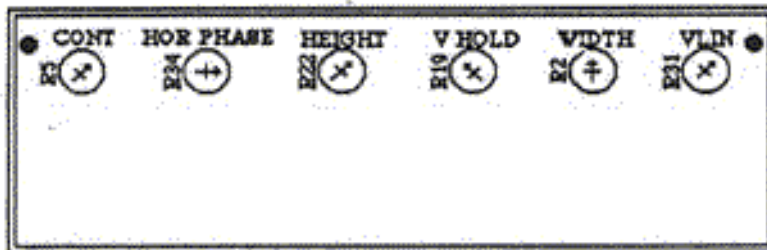

Figure 31
15. Locate the six adjustment potentiometers labeled "CONT.," "HOR. PHASE," "HEIGHT," "W. HOLD," "WIDTH," and "V. LIN" which are at the top of the video board. As shown in Figure 31, these adjustments have been sealed at the factory and will have to be unsealed and readjusted for use with the screen kit.